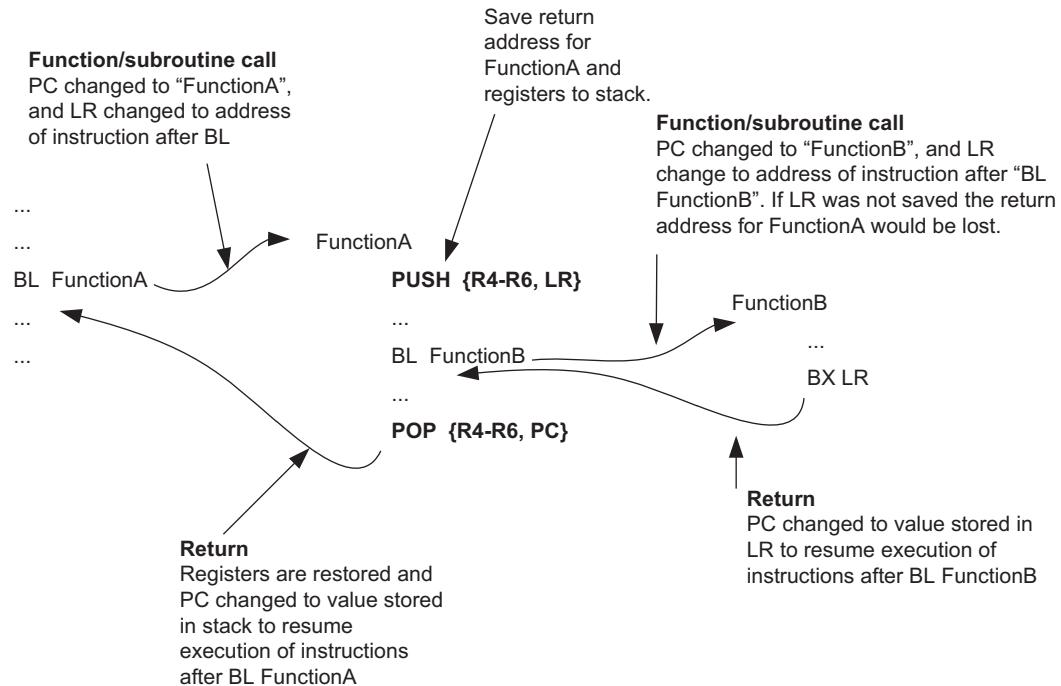

Figure 6.3:
operation to low registers and the Program Counter (PC) in one instruction. This allows you to combine register values restore and return with a single instruction. For example, if the registers R4 to R6 are being modified in “FunctionA,” and needed to be saved to the stack, we can write “FunctionA,” as shown in Figure 6.3.